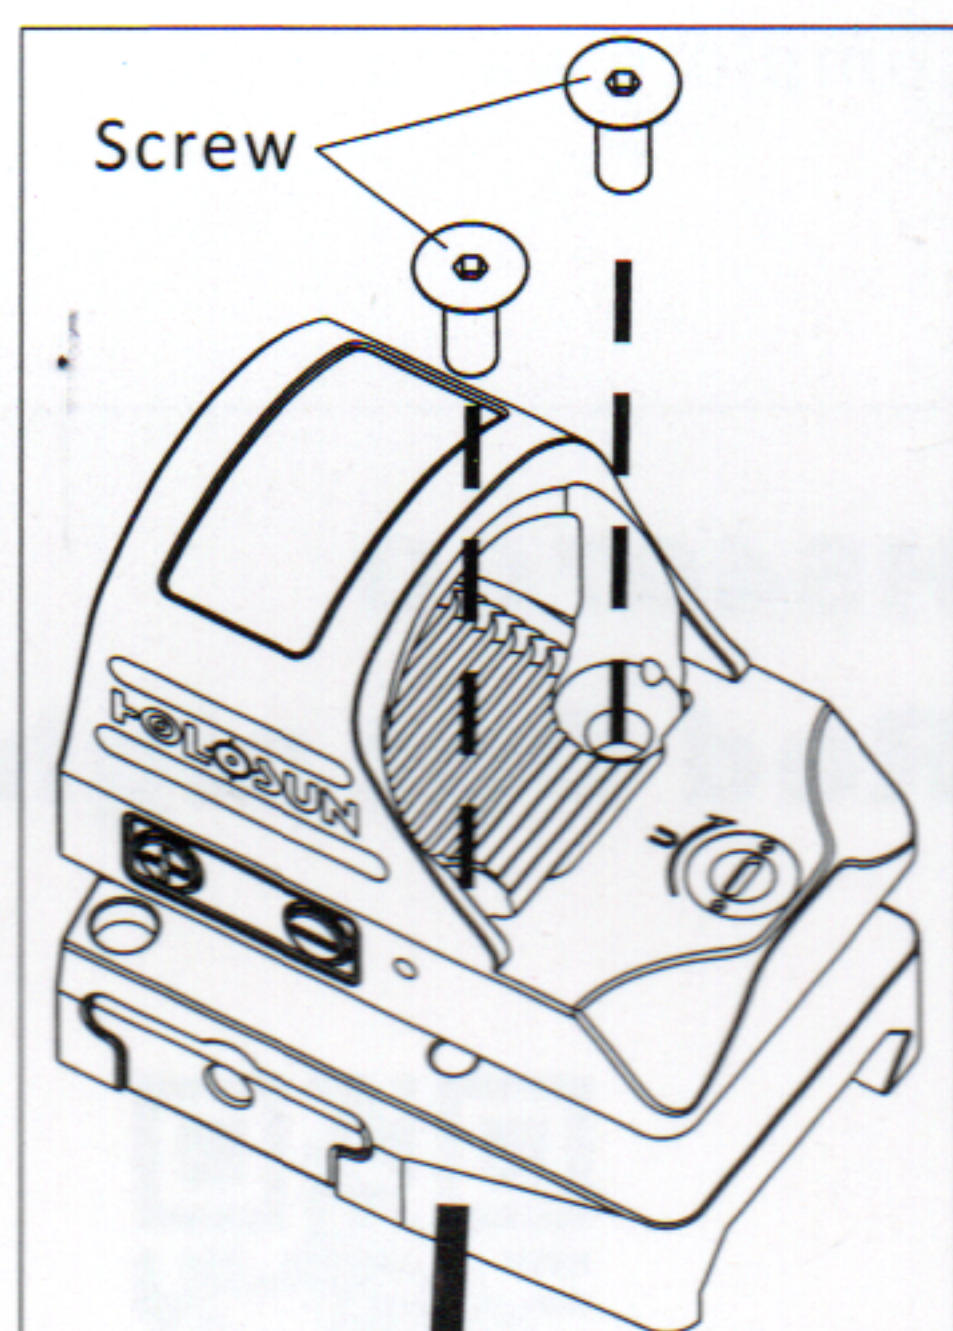

Fig 3-1
- 1) Remove the two mounting screws and remove the sight from the mount (Fig 3-1).
1. Remove the two screws shown in the figure 3-1 and remove the rail mount from the HS407CO.